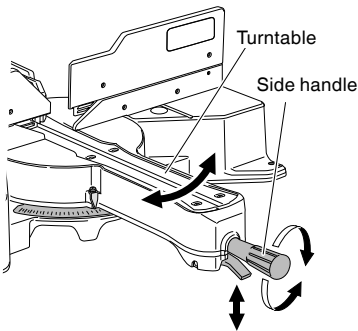

Fig. 35
- (1) Rotate the turntable to the miter angle you need.
- (2) After adjusting to the desired angle, tighten the side handle. (Fig. 35.)